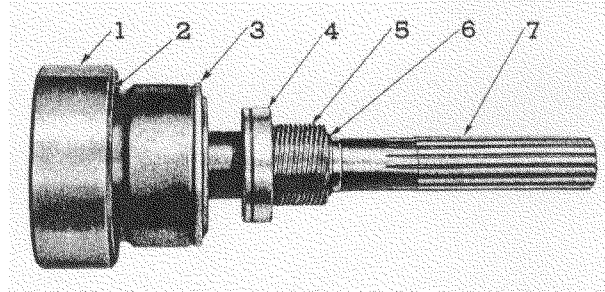

Fig. 32—Overdrive Output Shaft Assembly
7. Remove ring gear snap ring (large) and slide ring gear off shaft (fig. 32). The oil collector ring is spun securely to the shaft to form an oil tight seal.